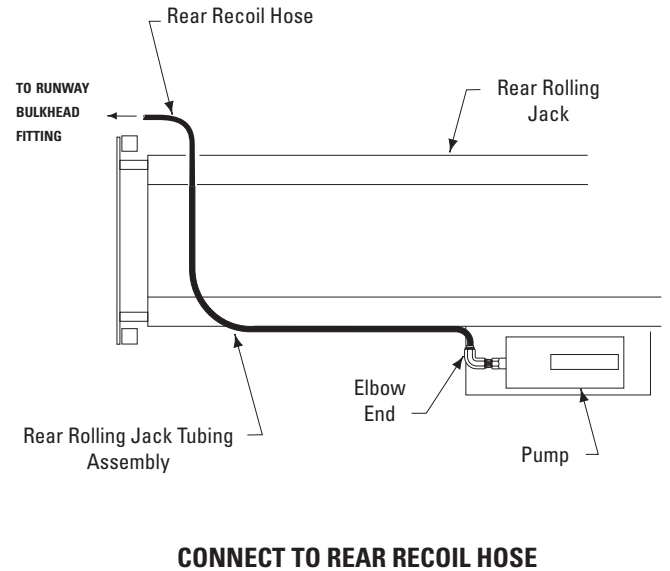

Fig. 33
- C. Connect one end of provided rear recoil hose to bulkhead T-fitting at midpoint of runway. Connect other end of recoil hose to coupling welded on rolling jack, Fig. 33 and 34.
- D. Connect elbow end of rolling jack tubing assembly to air pump and male end to the coupling, Fig. 33 and 34.